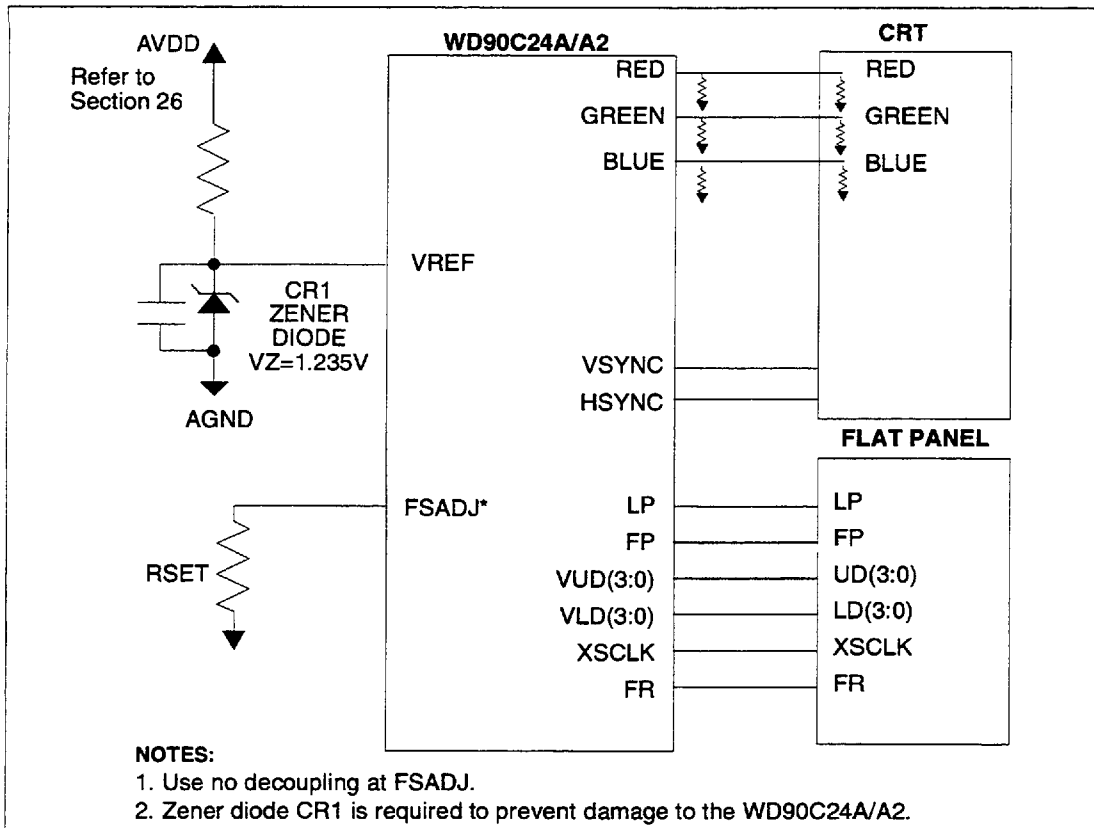

FIGURE 26-8. EXAMPLE OF CRT CONNECTIONS SHOWING VREF AND FSADJ CIRCUITS
- Example of CRT Connections showing VREF and FSADJ Circuits (Figure 26-8)
- Internal RAMDAC Monitor Detection (Figure 26-8)